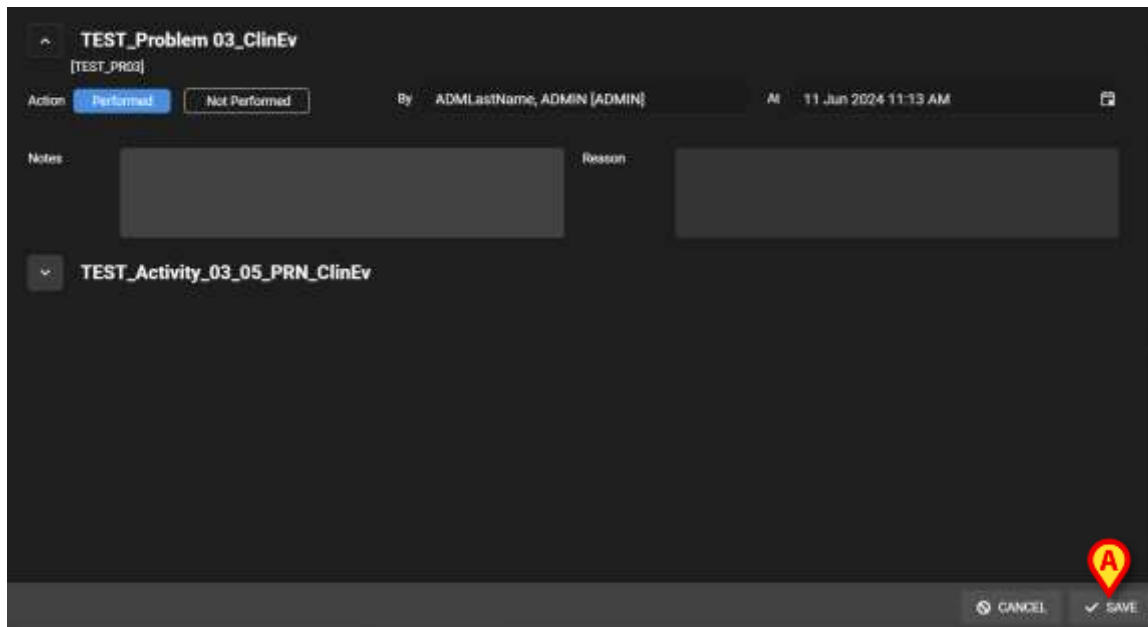

Fig 74
The execution window opens (Fig 74).
- Click **Save** (Fig 74 **A**).